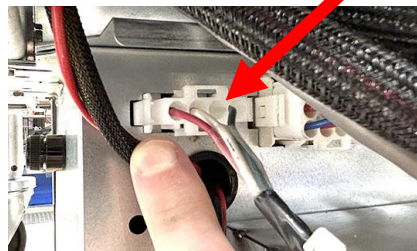

Figure 2
3. Disconnect the sensor from the top left connector on the rear of the SCB box (see Figure 2).
8. Connect to the plug shown in Figure 2.